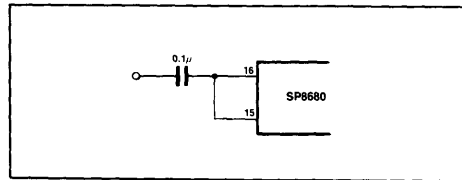
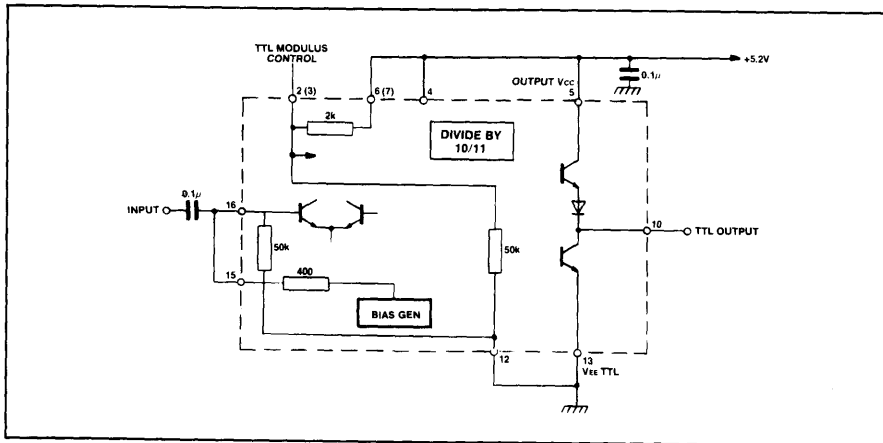
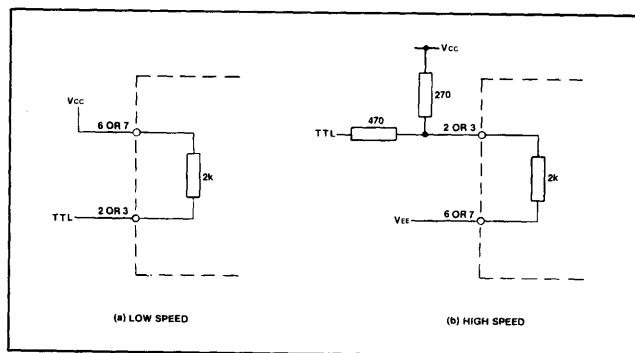

Fig.7 AC coupled input
Fig.8 Typical application showing interfacing
Fig.9 TTL interface to PE1 and PE2
1. The clock input, which is ECL 10K compatible throughout the temperature range, can also be directly coupled to TTL as shown in Fig. 9. The clock can also be capacitively coupled to the signal source (see Fig. 7). Connecting the internally-generated bias voltage to the clock input, i.e. pin 15 to pin 16 centres the clock input about the switching threshold (see Fig. 8).
4. Both control inputs (PE1 and PE2) are ECL 10K compatible throughout the temperature range. Each control input is provided with a pull up resistor, the remote ends of which are connected to pins 6 and 7. This allows the pull up resistors to be unused if so desired, or to be used to interface from TTL (see Fig. 9). If interfacing to ECL is required then pins 6 and 7 should be left open circuit; alternatively they can be connected to V_{EE} to act as pull-down resistors. When high, the master set input sets the counter to the eleventh state, is asynchronous, and overrides the clock input.